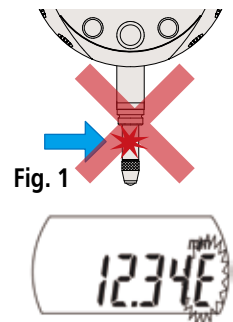

Fig. 2
2. The letter "E" appearing temporarily at the end of the display while the spindle is moving is normal. However, if it is displayed continuously when the spindle is at rest then repair is necessary. **(Fig. 2)**